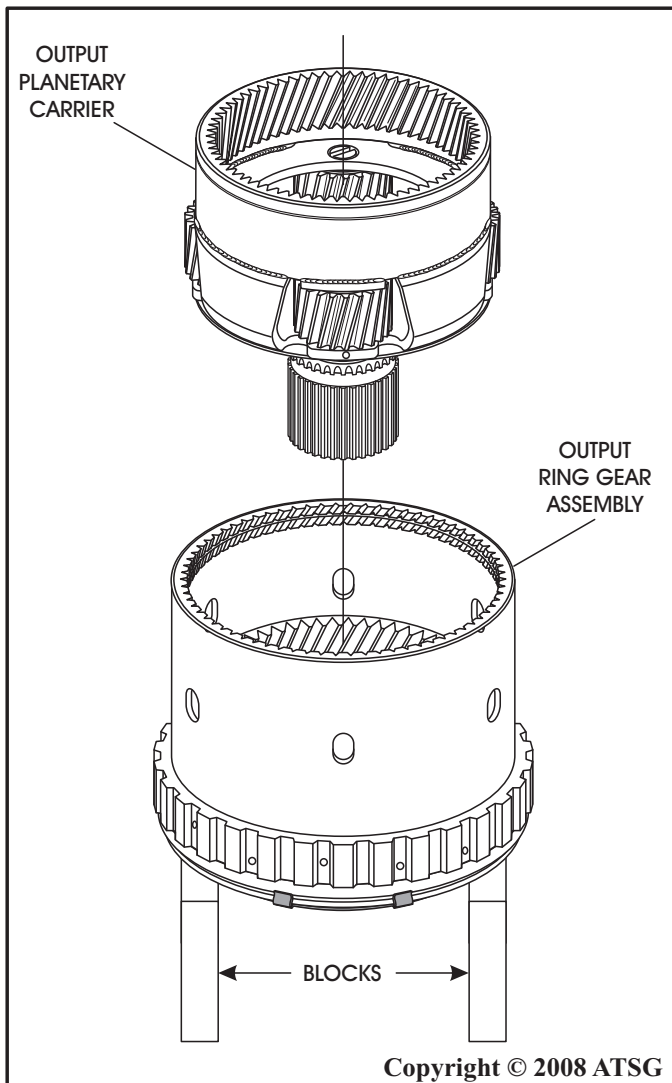

Figure 107
10. Turn the ring gear assembly over and set on device to raise it off of the work surface, as shown in Figure 107.
11. Install the output planetary carrier into output ring gear, as shown in Figure 107, and rotate to engage planetary gears.